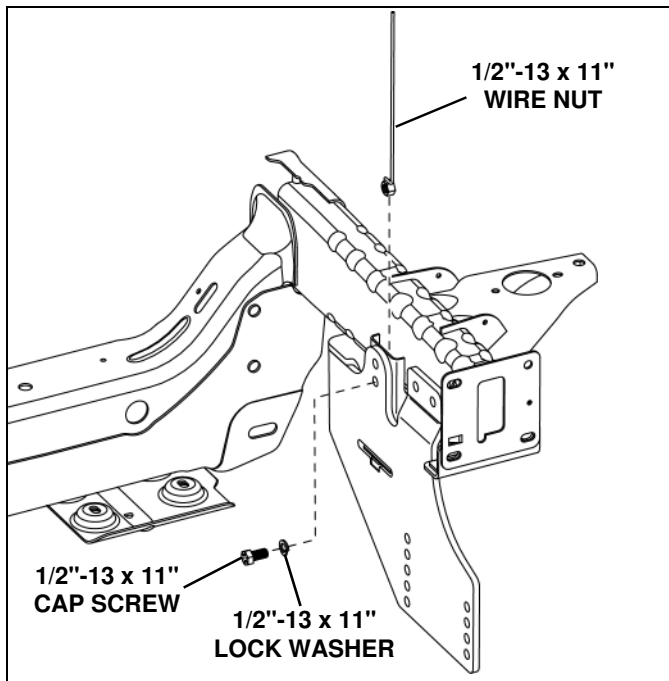
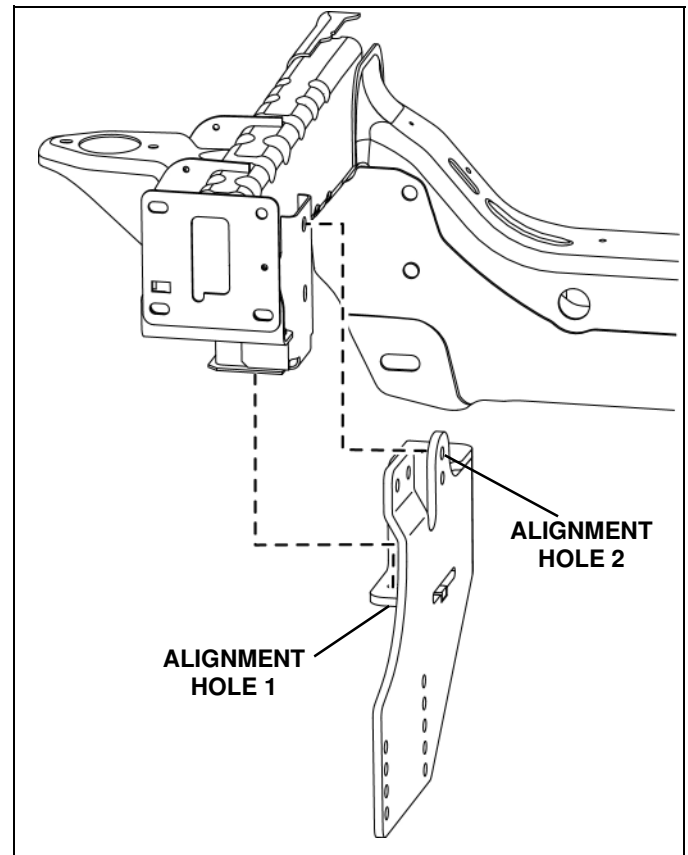

Figure 3
Figure 4
- a. Insert (1) M12-1.50 x 30mm Cap Screw (#10) through (1) 1/2" Lock Washer (#9), and the lower hole of the Weldment, Side, DS (#2). Then, thread into the lower Tow Hook hole.
- b. Insert (1) Wire Nut, 1/2"-13 x 11" (#5) into the vertical square bracket on the truck frame from the top. Then, insert (1) 1/2"-13 x 1.00" Cap Screw (#11) through (1) 1/2" Lock Washer (#9), then the lower side hole of item (#2) and secure to item (#5). (See Figure 3)
- c. Place (1) 1/2" Plain Washer (#8) over the threads of (1) 1/2"-13 x 1-1/2" x 8" Handle Bolt (#6). Secure the washer against the head of the bolt using a rubber band tightly wound around the bolt up against the washer. This will prevent the washer from falling off the bolt as it is inserted into the truck frame. Insert items (#6 & 8) into the truck frame, through the front drilled hole in the side of the frame, and item (#2). Secure loosely using (1) 1/2"-13 Nylock Nut (#13).
- e. Place (1) 1/2" Plain Washer (#8) over the threads of (1) 1/2"-13 x 1-1/2" x 15" Handle Bolt (#7). Secure the washer against the head of the bolt using a rubber band tightly wound around the bolt up against the washer. This will prevent the washer from falling off the bolt as it is inserted into the truck frame. Insert items (#7 & 8) into the truck frame, through the rear drilled hole in the bottom of the frame, and item (#2). Secure loosely using (1) 1/2" Plain Washer (#8) and (1) 1/2"-13 Nylock Nut (#13).
6. Install Side Weldment, PS (#3) to the inside of the driver side vehicle frame rail. Align the two holes pointed out in figure 3 on item (#3) with the Tow Hook hole and side hole in the truck frame. (See Figure 4)